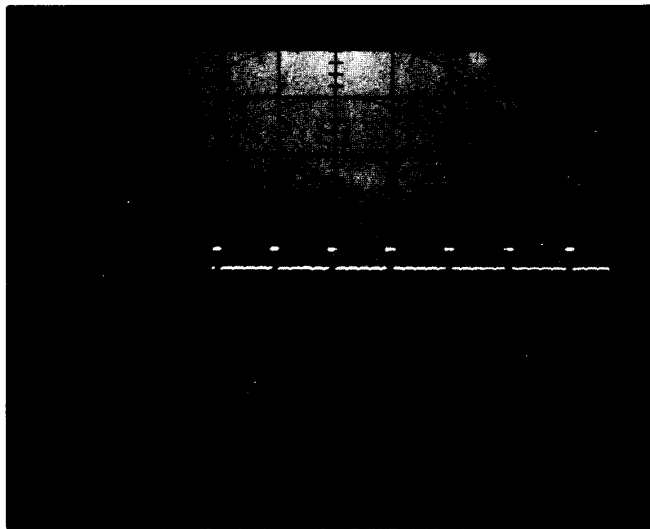

Figure 5-22. Display Blanked at 3-MHz Marker
1. Adjust TUNE control to place 10 MHz marker at right edge of screen. Select 1 MHz markers and adjust A14R27 3 MHz so that display blanks just before the 3.0 MHz marker, as in Figure 5-22.